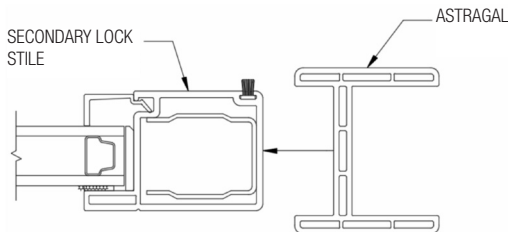
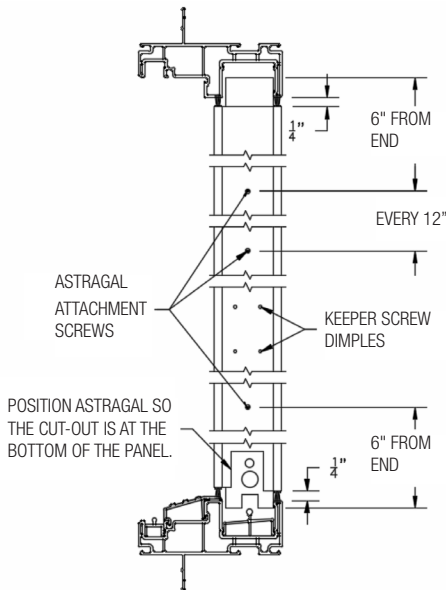

FIG. 20
FIG. 21
- E) Apply the astragal to the secondary stile. The secondary stile will fit into the shallow pocket on the astragal (FIG. 20). Center the astragal vertically in opening. There should be an approximate 1/4" gap between the astragal and the head & sill. The square cut-out on the astragal will go towards the bottom of the panel near the roller adjustment screw (FIG. 21).
- F) Attach the astragal to the secondary stile using screws from earlier. Apply the screws in the center of the profile 6" from each end and approximately 12" apart along the full length of the astragal (FIG 21).